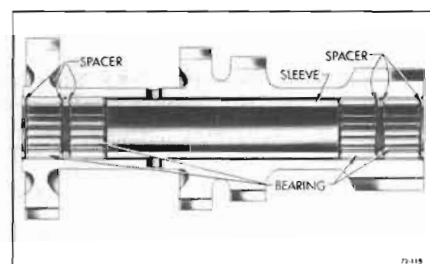

Figure 72-118—Countergear Assembly
a. Disassembly (See Figure 72-118)
2. From each end of countergear remove three (3) spacers and 40 needle bearings.
b. Reassembly (See Figure 72-118)
3. From each end of countershaft install 20 needle bearings, two (2) .050 spacers, 20 needle bearings and one .050 spacer.